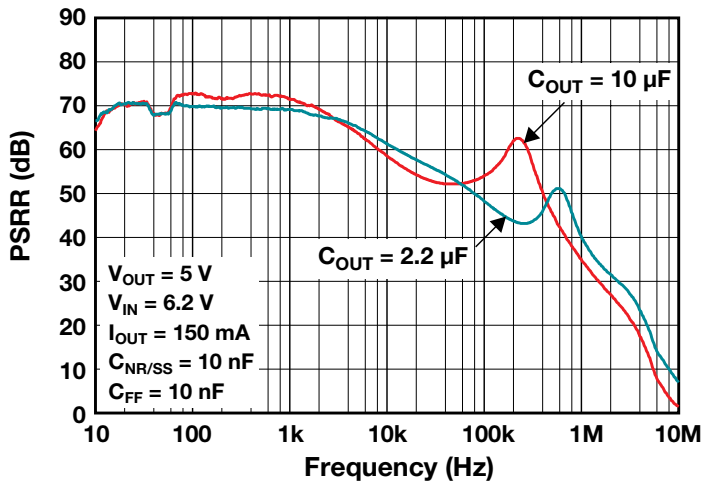

Figure 19. PSRR vs. frequency plot for the TPS7A49 LDO, $C_{OUT} = 2.2 \mu\text{F}$.
• **Adding an LDO.** As I discussed in Section 6.1, you can further improve your system’s PSRR by adding an LDO to suppress unwanted noise. If you intend to use switching power supplies in your system, you should also consider the specific switching frequencies that will work best in your system. You can use this technique for all high-resolution ADC applications, though it is most important for wider-bandwidth applications where noise is more likely to couple or alias into the output. In those cases, choose an LDO that has the most PSR for the switching frequency you plan to use. Or conversely, consider a switching frequency that fits within the highest portion of the PSRR curve for your LDO. **Figure 19** shows a PSRR versus frequency plot for the TI TPS7A49 LDO. Note that as the switching frequency increases, the PSRR of this LDO decreases.